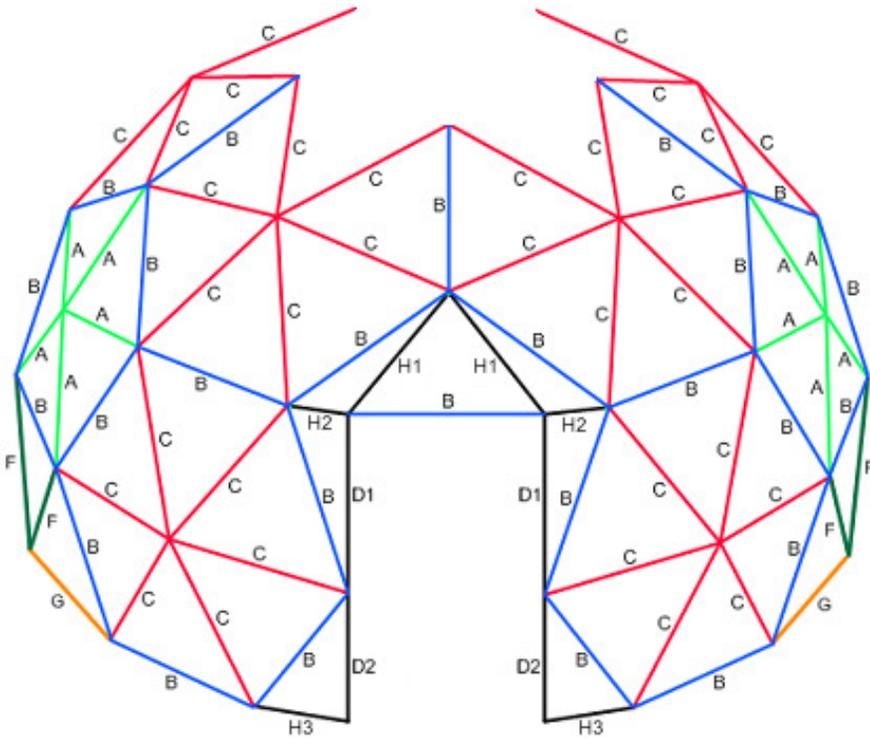

Figure 15 – Install 10 C struts.
- Count out 5 B's and use them to connect the tips of the triangles formed in the previous step. This will create the outline of the uppermost pentagon. See Figure 15.